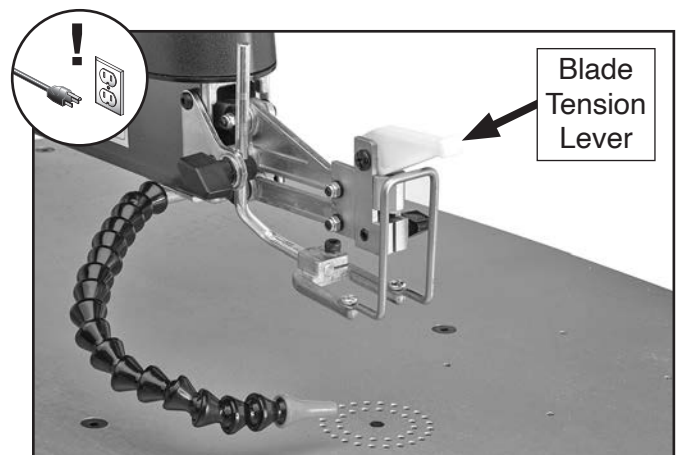

Figure 18. Blade tension lever released.
3. Move blade tension lever forward to release blade tension (see **Figure 18**).